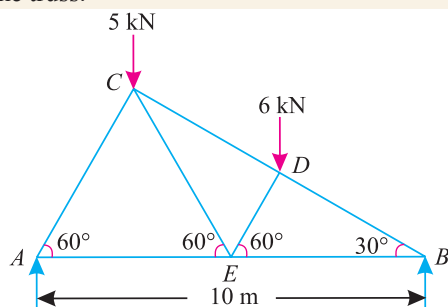

Fig. 13.19.
1. A truss of span 10 meters is loaded as shown in Fig. 13.19. Find the forces in all the members of the truss.